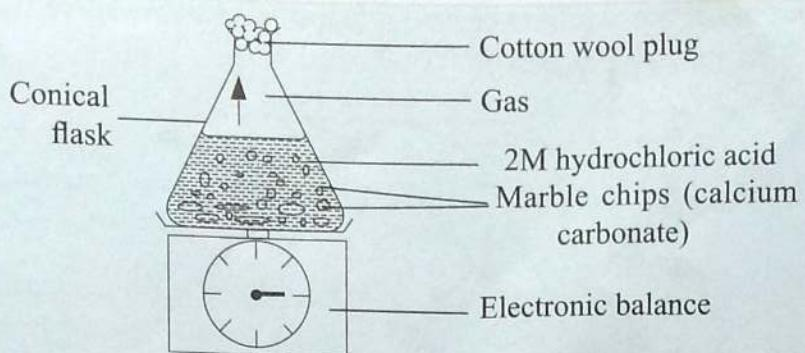

Fig. 1.7: Determining loss of mass of calcium carbonate
3. Put the marble powder into the flask containing hydrochloric acid and immediately place the flask and its contents on the electronic balance as shown in Fig. 1.7 below. Let the initial balance reading be X.